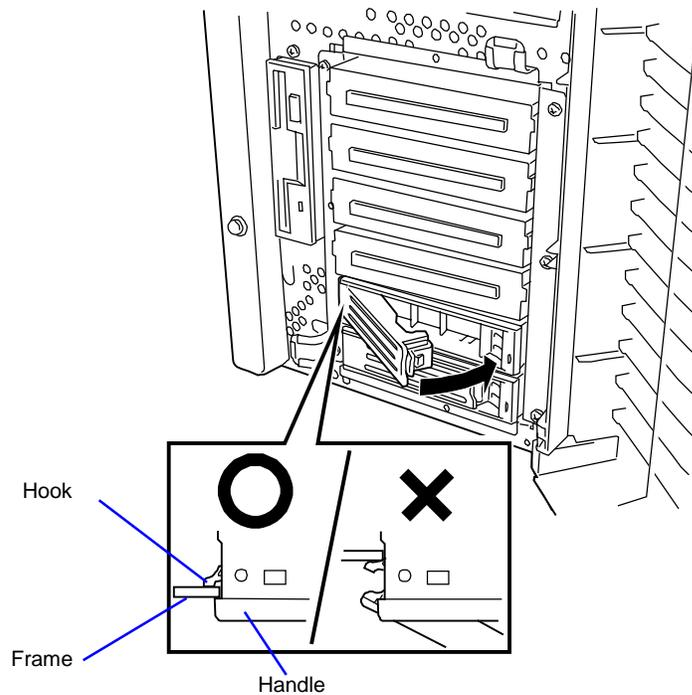

Figure 4-22. Locking the Hard Disk Drive Carrier
8. Close the lever ensuring the drive is secured. The handle is locked when a distinct click is heard.. See Figure 4-22.